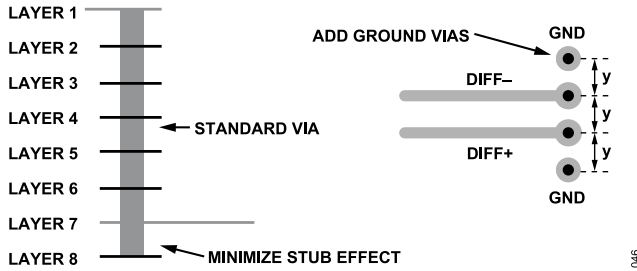

Figure 82. Minimizing Stub Effect and Adding Ground Vias for Differential Stripline Traces
- ▶ If using standard vias, use the maximum via length to minimize the stub size. For example, on an 8-layer board, use Layer 7 for the stripline pair (see Figure 82).
- ▶ For each via pair, place a pair of ground vias adjacent to them to minimize the impedance discontinuity (see Figure 82).